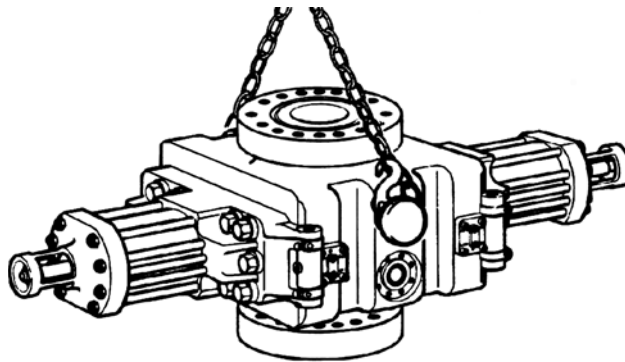

Figure 3-1. Lifting LWS BOP
2. Some models have lifting lugs above the mud flange outlets (see Figure 3-1).
1. On models with lifting lugs cast into the body, the BOP is lifted by wrapping a chain or cable of sufficient strength around the lug (see Figure 3-1).